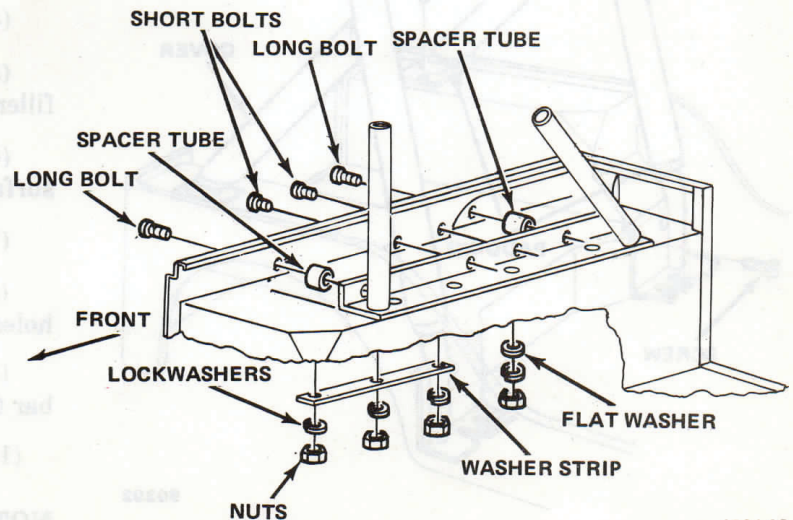

Fig. 9-4 Roll Bar Installation—1976-Early 1979 CJ Models
(1) Place roll bar in vehicle on top of rear wheelhouses. Roll bar must be sprung together slightly to go past lip at top of side panels. Position forward edge of roll bar 6 inches from forward edge of wheelhouse (fig. 9-4).